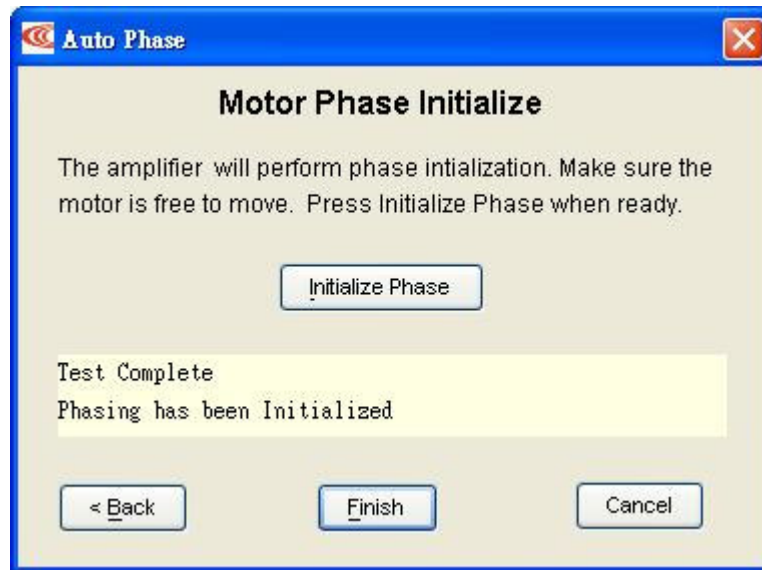

Fig. 17 Phase has been Initialized
- g. Press Initialize Phase, and the motor will perform phase initialization. If it is successful, Fig. 17 Phase has been initialized appears.